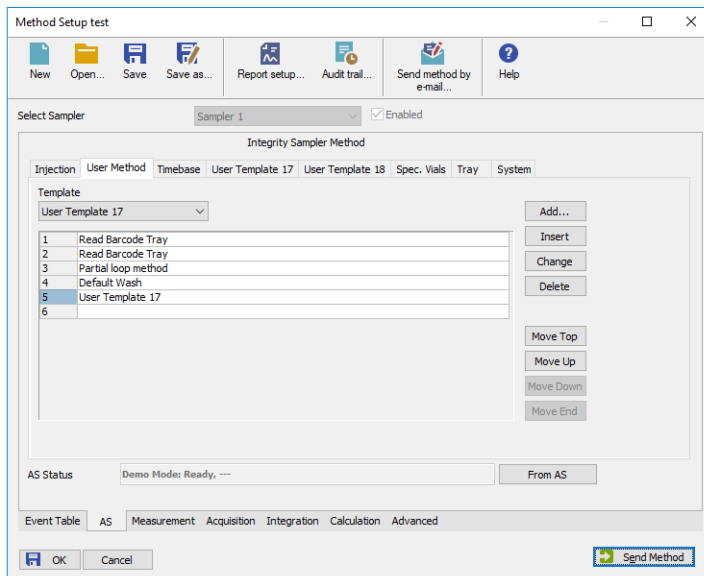

Fig 8: Method Setup - AS - User Method
**Fig 8** on pg 14. shows a defined *User Method* which will perform the following actions: scan the barcode on the tray, scan the barcode on the vial, perform *Partial loop method*, perform *Default Wash* and perform actions defined on the *User Template 17* tab.